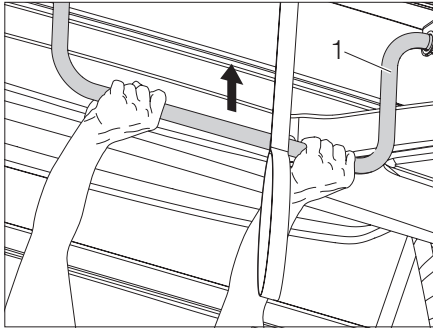

Fig. 35 Pushing up the pop-up roof
- ▶ Push up the pop-up roof by the bar (Fig. 35,1).